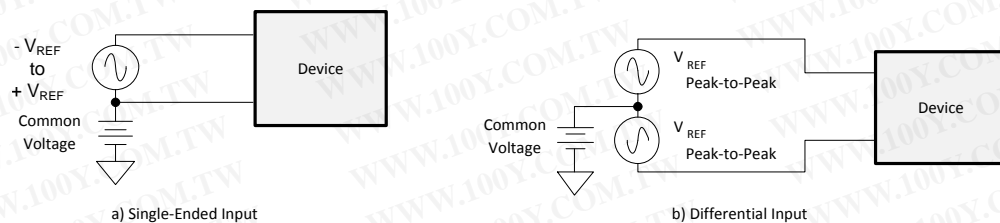
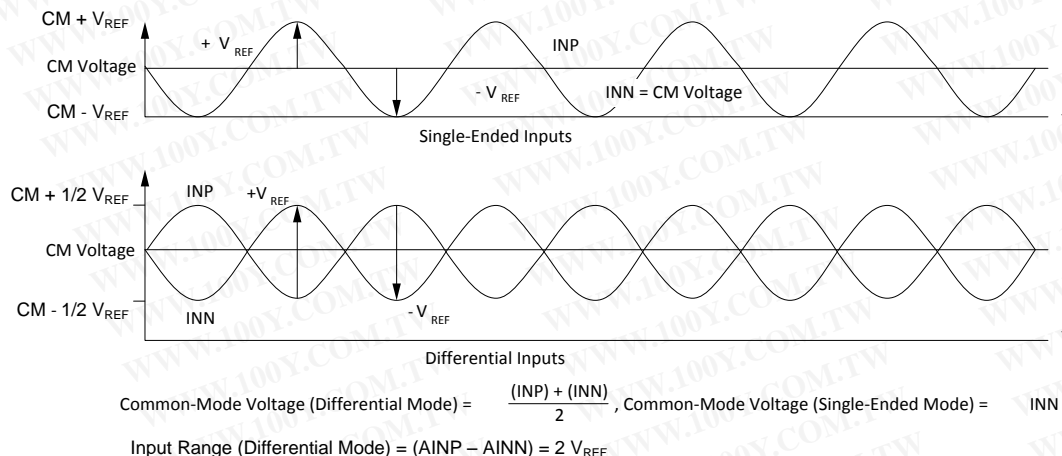

Figure 49. Methods of Driving the ADS1298: Single-Ended or Differential
Figure 50. Using the ADS1298 in the Single-Ended and Differential Input Modes
The analog input to the ADS129x is fully differential. Assuming $PGA = 1$, the differential input ($INP - INN$) can span between $-V_{REF}$ to $+V_{REF}$. Note that the absolute range for INP and INN must be between $AVSS - 0.3V$ and $AVDD + 0.3V$. Refer to Table 13 for an explanation of the correlation between the analog input and the digital codes. There are two general methods of driving the analog input of the ADS129x: single-ended or differential, as shown in Figure 49 and Figure 50. Note that INP and INN are 180°C out-of-phase in the differential input method. When the input is single-ended, the INN input is held at the common-mode voltage (CM), preferably at mid-supply. The INP input swings around the same common-mode voltage and the peak-to-peak amplitude swings from $CM - V_{REF}$ to $CM + V_{REF}$. When the input is differential, the common-mode is given by $(INP + INN)/2$. Both the INP and INN inputs swing from $CM + 1/2V_{REF}$ to $CM - 1/2V_{REF}$. For optimal performance, it is recommended that the ADS129x devices be used in a differential configuration.